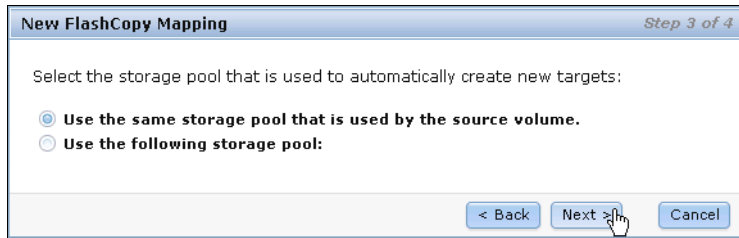

Figure 9-20 Choose use the same storage pool with the source volume
- You can choose from which storage pool you want to create your volume. As shown in Figure 9-20, you can select the same storage pool that is used by the source volume. Click **Next** to continue.